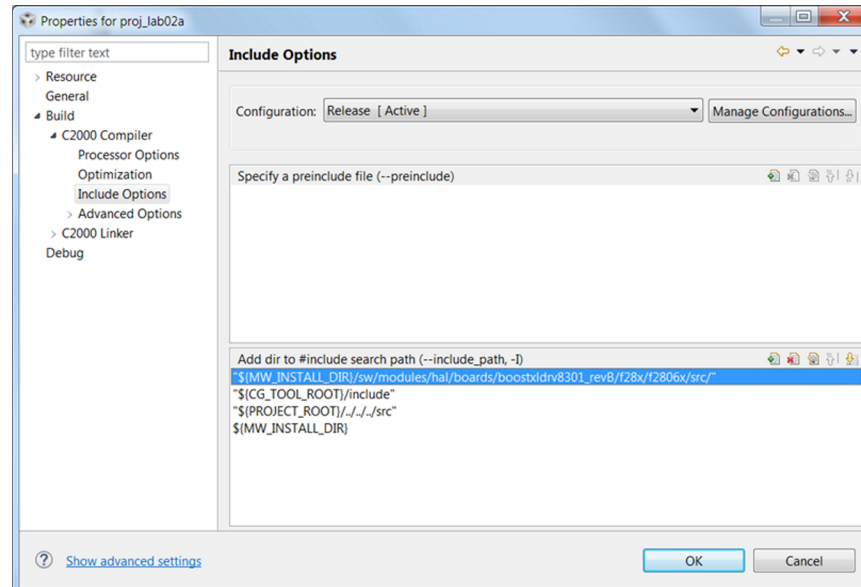

Figure 10. Dialog Window for Step 6a
- a. In the **File** menu, navigate to **Build** → **C2000 Compiler** → **Include Options** to view the following options in Figure 10: